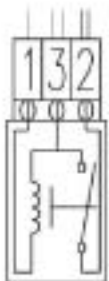

FIG 2 [INTERNAL CIRCUIT]
4. PTC begins heating as power is entered to No. 1 and 3 in [FIG 2].
[FIG 2]. Current flows in output terminal 2. Also, 'slider stop' built in with blade enters the holde of slider and 'restrains slider while current is flowing'. So door cannot be opened.
- ① When power is turned off, power of terminal 1~3 in [FIG 2] is turned off. As current impressed to PTC is removed, 'bimetal' is cooled.
- ② With cooling of bimetal, PTC is returned to the original position. Also, restoration of omega spring blade contact point is turned off. Therefore, 'slider stop restoration (40sec ~ 5min after power off)' occurs.
- ③ As slider restraint is cleared, door can be opened.